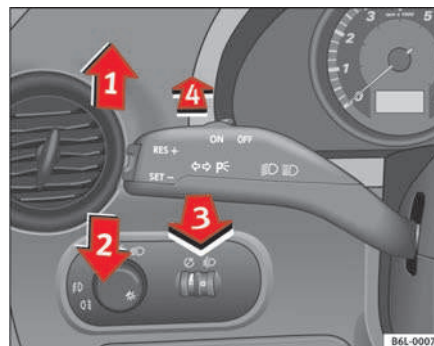

Fig. 60 Turn signal and main beam headlight lever
- Move the lever all the way up  **fig. 60 ①** to indicate **right**, and all the way down **②** to indicate **left**.
- Press the lever forward  $\Rightarrow$  page 92, fig. 60  to switch on the main beams.